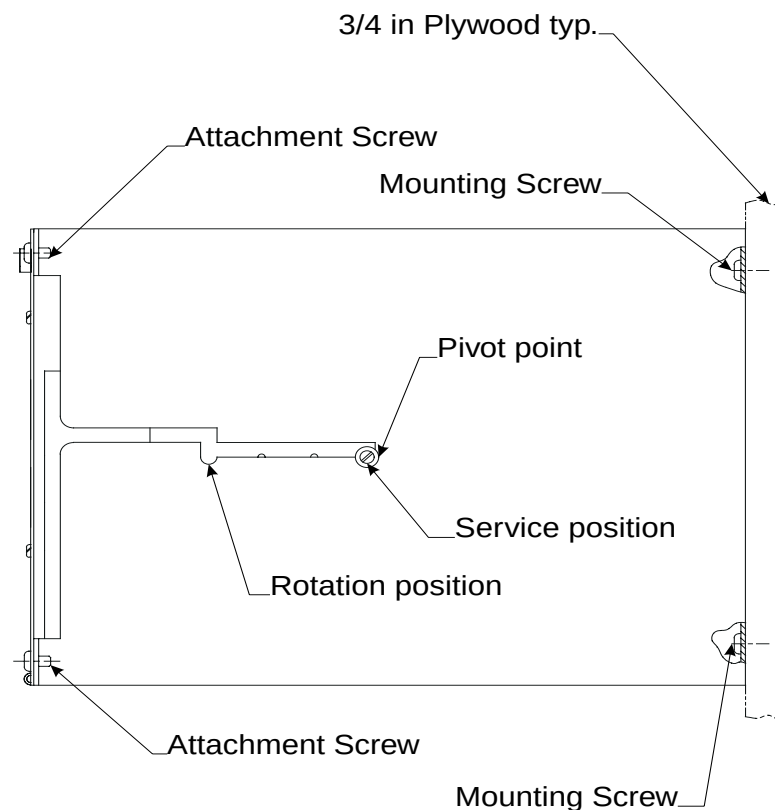

Figure 2. Wall DT Cabinet — Bottom View
2. With both hands on the bottom of the Wall DT, carefully lift up on the Wall DT so the pivot point leaves the service position, and slide the Wall DT forward until the pivot point reaches the rotation position. Allow the pivot point to drop down into the rotation position, and rotate the Wall DT 90 degrees until the backplane is in the up position (see Figure 2).
3. Carefully rotate the Wall DT 90 degrees until the Wall DT is in the normal position. With both hands on the bottom of the Wall DT, carefully lift up on the Wall DT so the pivot point leaves the rotation position, and slide the Wall DT back until the pivot point reaches the service position. Allow the pivot point to drop down into the service position (see Figure 2).